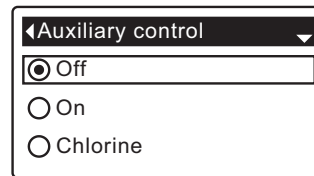

FIG. 80
7. Press the SELECT (O) button to display the Auxiliary control menu (See Figure 80).
8. If the desired option already has a black dot next to it (See Figure 80), go to Step 9. Otherwise, press the DOWN (▼) or UP (▲) buttons to scroll to the desired option, then press SELECT (O) to choose it.